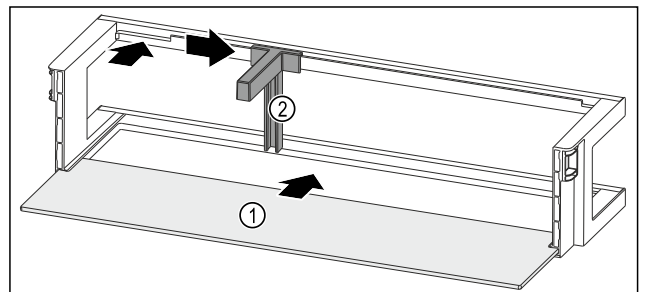

Fig. 96 Door rack with shelf
- ▶ Push the shelf Fig. 96 (1) into the side recesses.
- ▶ Insert the bottle holder Fig. 96 (2) in the recess.
- ▶ Push the bottle holder Fig. 96 (2) to the desired position to the side.